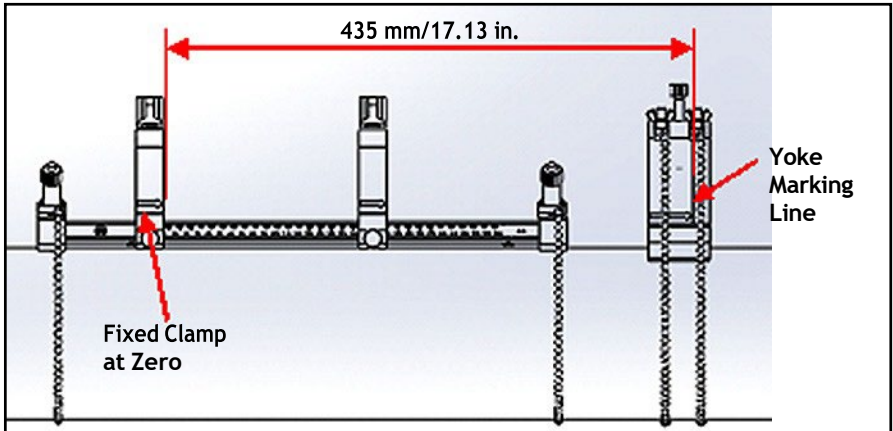

Figure 39: Yoke Set at 435 mm/17.13 in.
- Place the fixed clamp in the clamping fixture at zero on the scale. As an example, if the required transducer spacing is 435 mm/17.13 in., measure the required 435 mm/17.13 in. distance from the edge of the fixed clamp to the marked line on the yoke (see Figure 39 below).